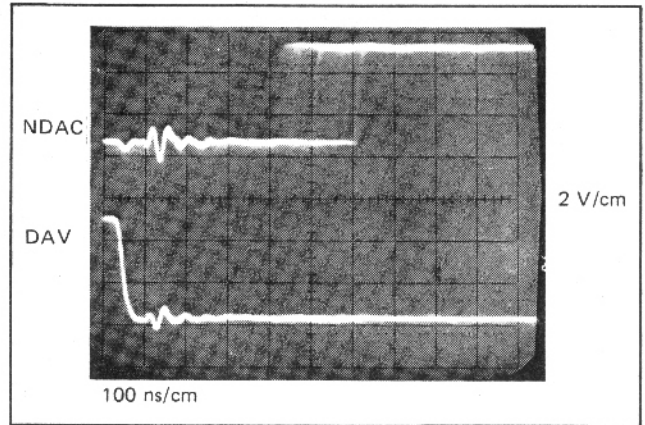

Figure 4-6. Listen Accept Time Test.
c. The Oscilloscope display should be similar to that shown in Figure 4-6. The time between the negative going edge of the DAV signal and the positive going edge of the NDAC signal must be less than 750 nanoseconds.